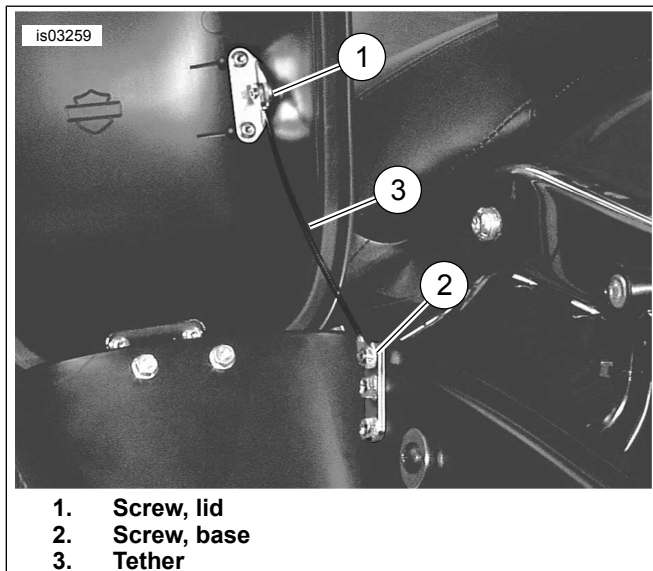
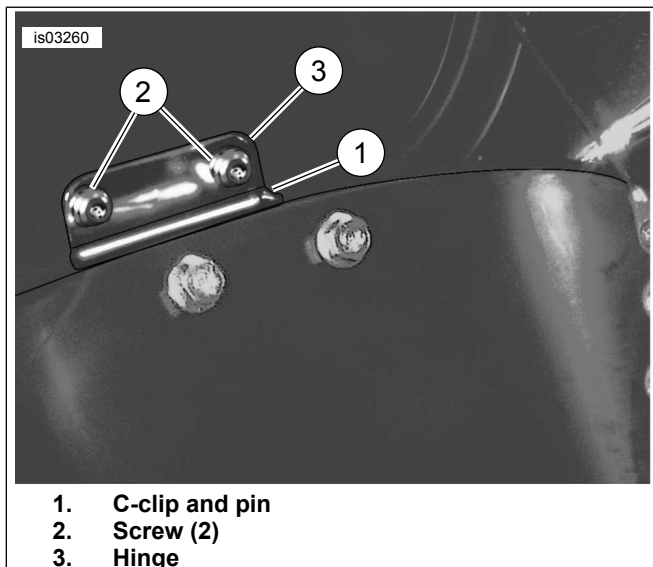
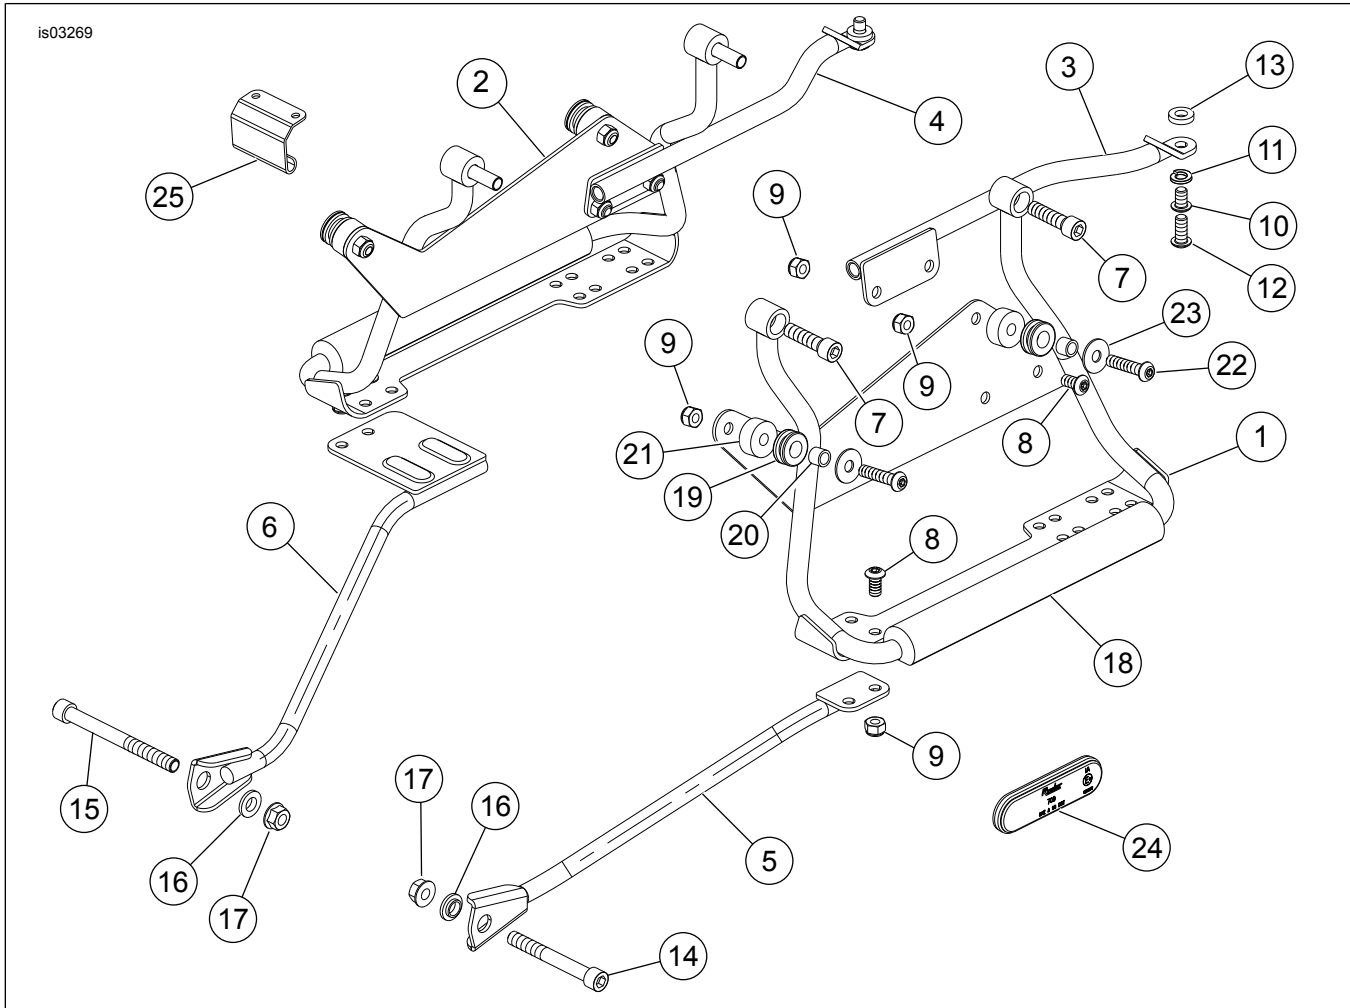

Figure 16. Remove Tether
Figure 17. Remove Hinge
Figure 18. Service Parts: Saddlebag Bracket Kit (90715-07) and Hardware Kit (88208-07)
2. See Figure 18. Insert bolt (14) through footpeg support and frame. Threads should be exposed approximately 1/2 in. on inner side of frame.
3. Install forward support bracket (5) onto bolt (14).
4. Install shoulder washer (16) with shoulder oriented toward bracket, then install nut (17) onto bolt and finger tighten.
2. See Figure 18. Insert bolt (15) through footpeg support (1) and muffler support. Threads should be exposed approximately 1/2 in. on inner side of frame.
3. Install forward support bracket (6) onto bolt (15).
1. See Figure 18. Install two screws (8) through saddlebag support hangers (1, 2) and into forward support brackets (5, 6). Secure with nuts (9). Tighten nuts to 10 ft-lbs (13.1 Nm).
4. See Figure 18. Install screw (22) and washer (23) from side saddlebag, through spacer (21). Then install nut (9), finger tight.
1. See Figure 16. Remove screws (1, 2) securing tether to saddlebag lid and base.
2. Remove tether (3) from saddlebag.
3. See Figure 17. Remove and save C-clip and pin (1) from hinge. Separate saddlebag lid from body.
4. Remove and save two screws (2) securing hinge to saddlebag lid.
- Slide hinge (3) out from under rubber seal.
- See Figure 18. Slide hinge (25) under rubber seal and fasten hinge half to saddlebag lid using screws (Figure 17, Item 2) previously removed. Tighten screws securely.
- See Figure 17. Install pin to hinge and secure with C-clip.